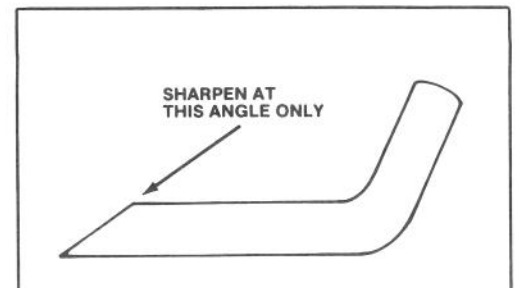

Figure 14
5. **SHARPENING BLADE** — Using a file, sharpen top side of blade and maintain original cutting angle (Fig. 14). The blade will remain balanced if same amount of material is removed from both cutting edges.